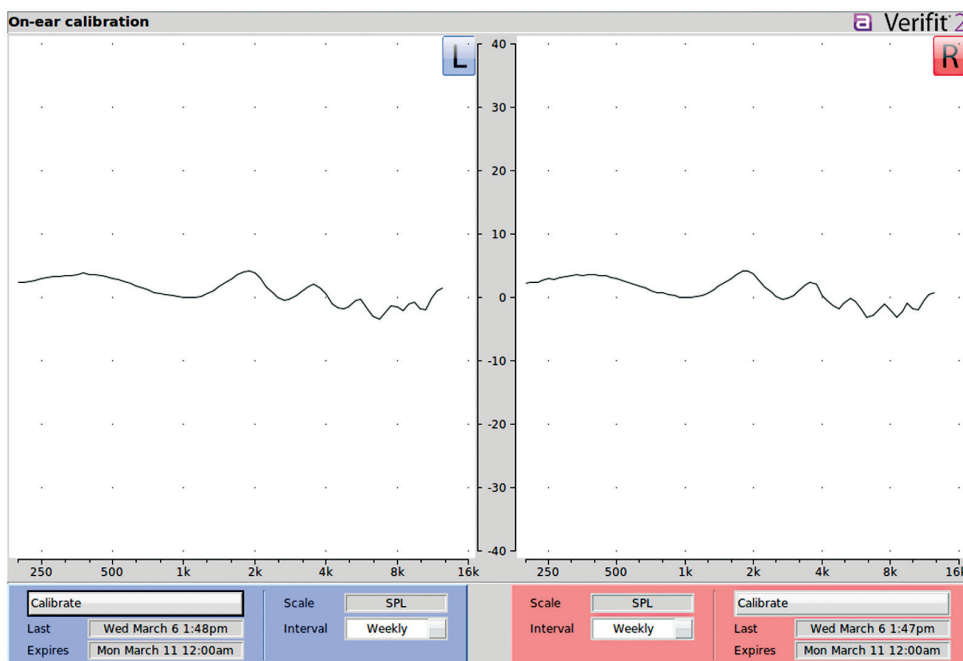

Figure 4 Probe microphone and reference microphone leveling graph.
8. Compare your results to those provided in Figure 4.